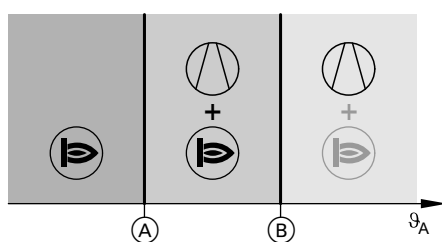

Fig. 11
The alternative operation temperature limit ^(A) (see Fig. 11 and 12) is calculated by the heat pump control unit.
The alternative operation temperature limit ^(A) (see Fig. 11 and 12) and the dual mode temperature ^(B) (see Fig. 11) are permanently set with "Shutdown limit, heat pump dual mode 7B0F" and "Dual mode temperature external heat source 7B02".
Start conditions for area ① + ②: See Figs. 11 and 12.
Start conditions for area  + : Only in dual mode parallel operation; see Fig. 11.
Start conditions for area : See Figs. 11 and 12.